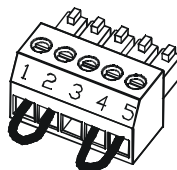

Fig.3-4: Sense connector default connection
- Sense connector: Configured to Local Sense as shown in Fig.3-4: